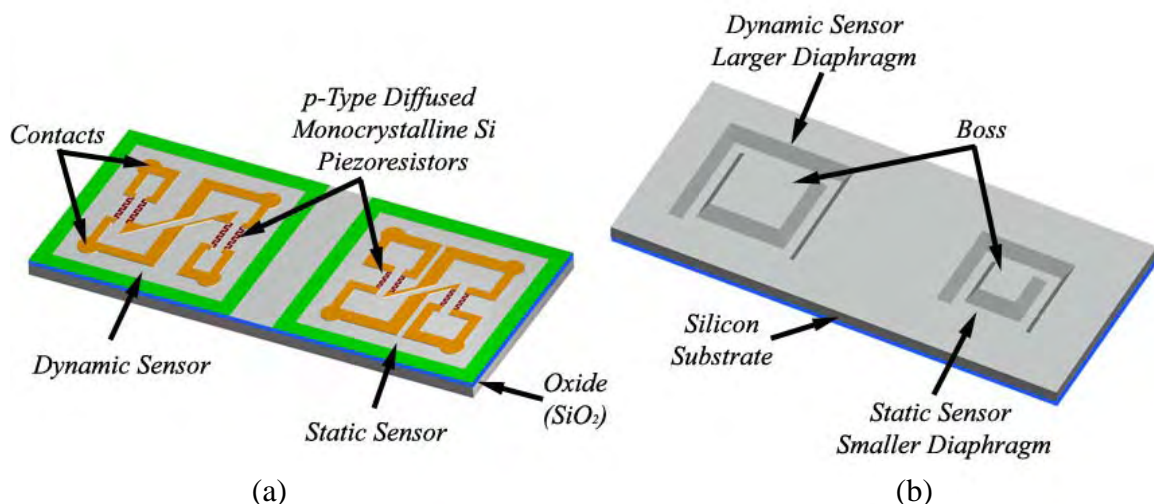
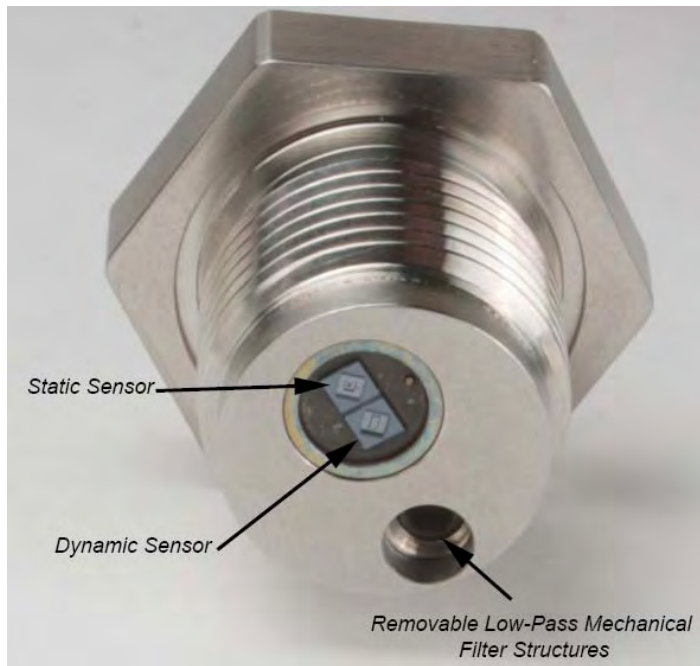
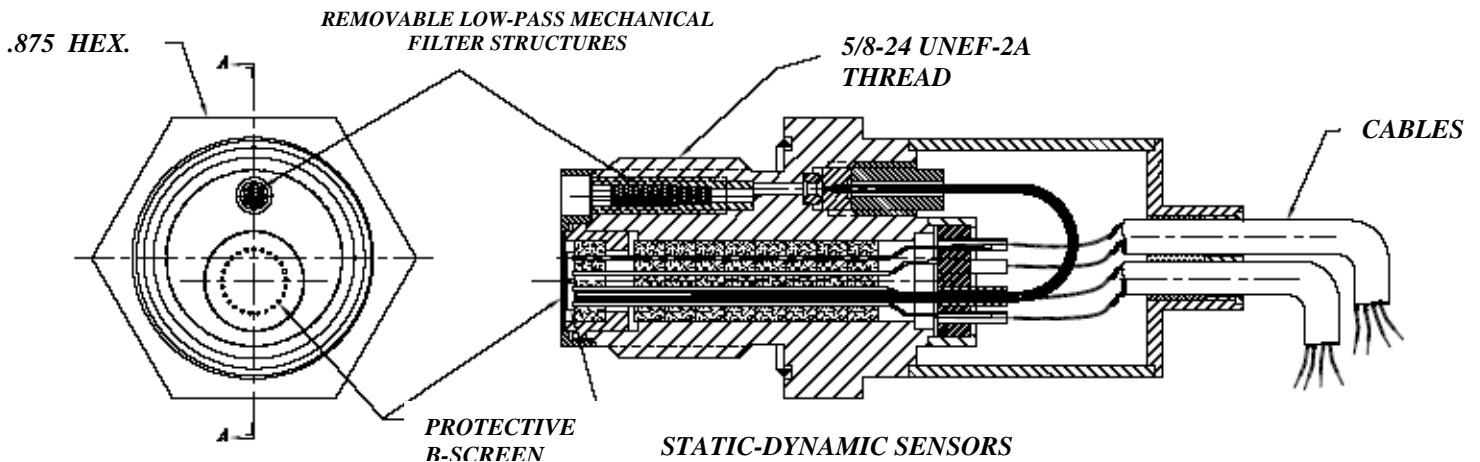

Figure 1: Front (a) and back (b) of static-dynamic silicon-on-insulator sensing elements.
Figure 2: Photograph of static-dynamic sensors fabricated on a single structure.
Figure 3: Static-dynamic transducer assembly
1) **Background:** The push to improve the efficiency of gas turbine engines has lead to an increase in flow instabilities within the combustion chamber of the engine. Detecting the earliest onset of these flow instabilities can help engineers manipulate the flow to re-stabilize it. If these flow instabilities are not addressed, they can grow in magnitude and severely damage the engine. The pressure within the engine is composed of a high static pressure (of the order of several hundred psi) together with a much lower dynamic pressure (on the order of several psi). High pressure transducers are typically unable to capture the acoustic level pressures that are characteristic of these flow instabilities because the signal generated from these low pressures is similar in magnitude to the noise within the system. To help gas turbine manufacturers detect and then solve such flow instabilities, Kulite Semiconductor Products Inc. has developed a piezoresistive sensor which combines on a single chip a differential low-pressure high frequency dynamic sensor together with a high-pressure static sensor. The composite sensor is shown in Figure 1. One may note that the sensing diaphragm of the dynamic sensor is much larger than that of the static sensor and is vented gage instead of absolute. To fashion such a sensor from a single slice of silicon one requires the same thickness but different dimensions obtaining, therefore, different sensitivities. The Kulite static-dynamic transducer, shown in Figure 2 and Figure 3, also uses innovative patented [1,2] low-pass mechanical filtering structures to insure that the dynamic gage pressure sensor will capture all high frequency pressure oscillations on the order of 10 psi or less that may exist within the high pressure environment of 200 psi and greater within the turbine engine. While this dynamic transducer measures the low-pressure oscillatory signals that may exist, a second, high-pressure static sensor within the static-dynamic transducer measures the large pressures in the engine of 200psi and greater. In this way, a single transducer is capable of measuring high static or quasi-static pressures, while simultaneously measuring low-pressure dynamic signals with a high signal to noise ratio.